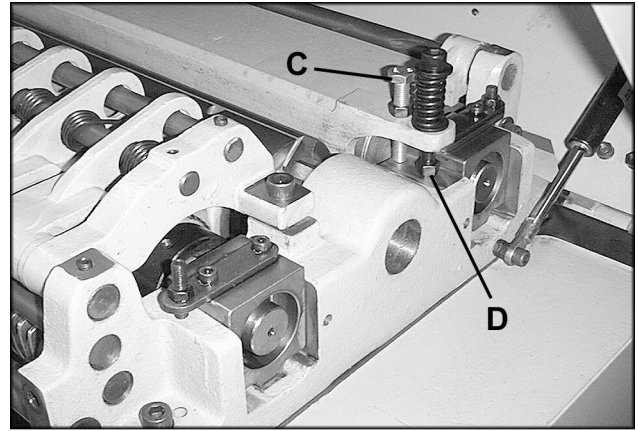

FIGURE 13
Use a bed and feed roll gauge to set the full length of the pressure bar to be .000-.001" (.02mm) above the arc of the cutterhead. Figure 13 shows the height adjustment screw (C) and the spring tension adjustment screw (D) for the pressure bar. This initial setup is a starting point and final adjustment may have to be made during a test cut.
Use a bed and feed roll gauge to check the outfeed roll in the same manner as the infeed roll. Adjust as necessary using the screws shown in Figure 13.